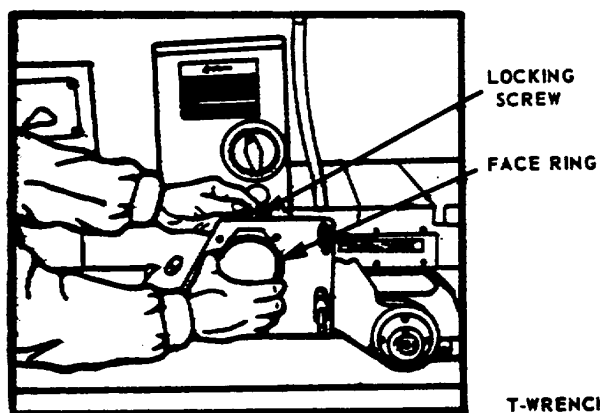

FIGURE 111
- (2) See Figure 111. Install Face Ring. DO NOT OVERTIGHTEN Locking Screw Face Ring may distort.